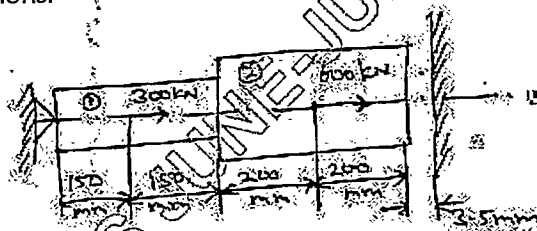

Fig. Q4 (a)
- 4 a. For the Bar shown in Fig. Q4 (a), determine the nodal displacement, element stresses and support reactions. (12 Marks)